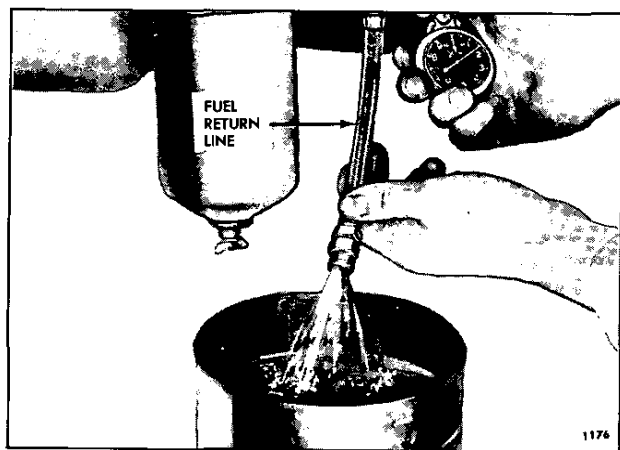

Fig. 4 - Measuring Fuel Flow
1. Disconnect the fuel return hose from the fitting at the fuel tank and hold the open end in a convenient receptacle (Fig. 4).